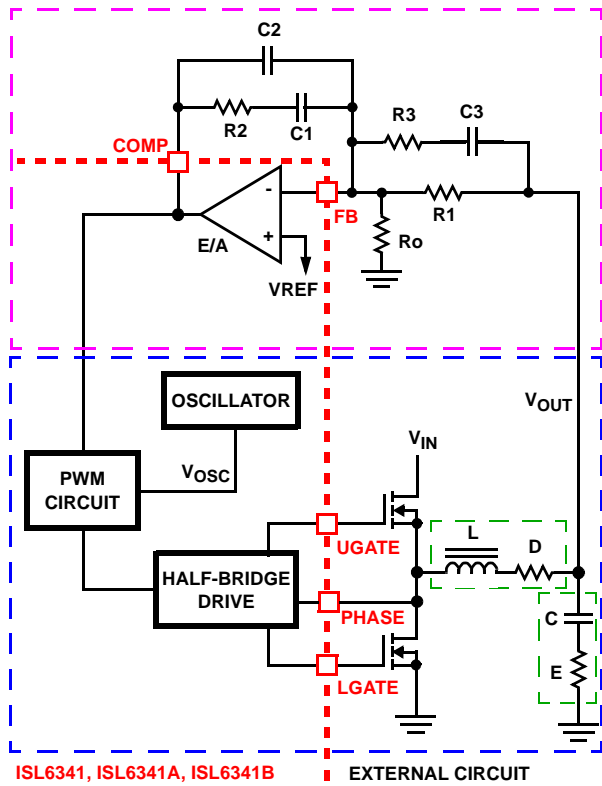

FIGURE 13. VOLTAGE-MODE BUCK CONVERTER COMPENSATION DESIGN
This section highlights the design consideration for a voltage-mode controller requiring external compensation. To address a broad range of applications, a type-3 feedback network is recommended, as shown in the top part of Figure 13.
Figure 13 also highlights the voltage-mode control loop for a synchronous-rectified buck converter, applicable to the ISL6341, ISL6341A, ISL6341B circuit. The output voltage (V_{OUT}) is regulated to the reference voltage, V_{REF} . The error amplifier output (COMP pin voltage) is compared with the oscillator (OSC) modified saw-tooth wave to provide a pulse-width modulated wave with an amplitude of V_{IN} at the PHASE node. The PWM wave is smoothed by the output filter (L and C). The output filter capacitor bank's equivalent series resistance is represented by the series resistor E.
The compensation network consists of the error amplifier (internal to the ISL6341, ISL6341A, ISL6341B) and the external R_1 to R_3 , C_1 to C_3 components. The goal of the compensation network is to provide a closed loop transfer function with high 0dB crossing frequency (F_0 ; typically 0.1 to 0.3 of f_{SW}) and adequate phase margin (better than 45°). Phase margin is the difference between the closed loop phase at F_{0dB} and 180° . The equations that follow relate the compensation network's poles, zeros and gain to the components (R_1 , R_2 , R_3 , C_1 , C_2 , and C_3) in Figure 13. Use the following guidelines for locating the poles and zeros of the compensation network:
4. Select a value for R_1 ($1k\Omega$ to $5k\Omega$, typically). Calculate the value for R_2 for desired converter bandwidth (F_0). If setting the output voltage via an offset resistor connected to the FB pin (R_o in Figure 13), the design procedure can be followed as presented.